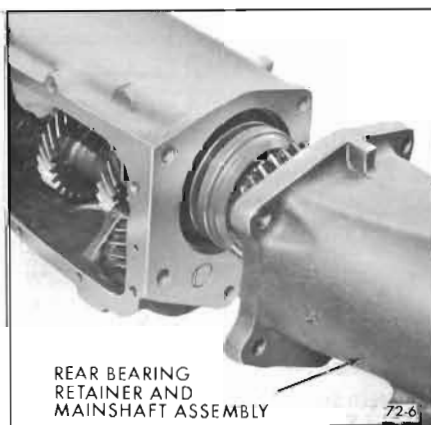

Figure 72-6—Removing Mainshaft Assembly
8. From rear of case, remove rear bearing retainer and mainshaft assembly. See Figure 72-6.